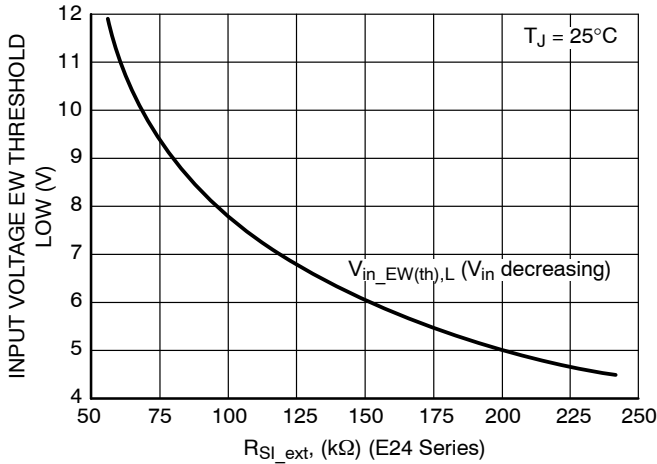
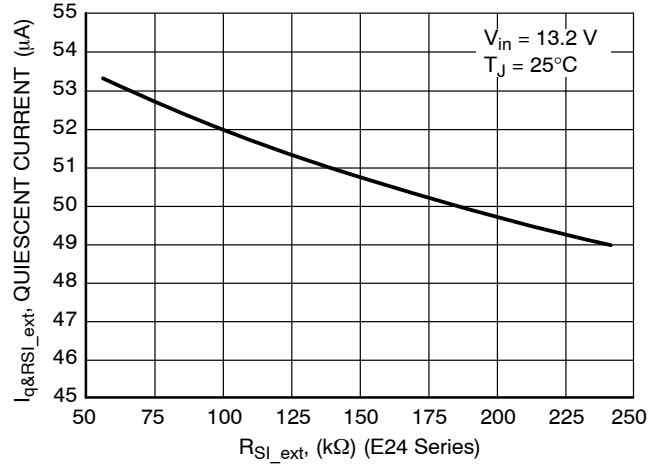

Figure 26. Input Voltage EW Threshold Low vs. R_{SI_ext} (Calculated Using E24 Series)
Figure 27. Quiescent Current vs. R_{SI_ext} (Including I_{RSI_ext} , Calculated Using E24 Series)
13. I_q for Preset EW Threshold Options is measured when R_{SI_ext} is not used. For typical values of I_q vs R_{SI_ext} see Figure 27.
Practically only preset options above 4.5 V can be used without R_{SI_ext} due to minimum operating input voltage value limitation. For other preset options the trip point has to be adjusted externally using R_{SI_ext} resistor connected between input monitor SI and GND (see Figure 1). For other preset options R_{SI_ext} has to be used to achieve V_{in_EW(th)} > 5.5 V (minimum operating input voltage value). The value for R_{SI_ext} is recommended to be selected in range from 50 kΩ to 250 kΩ and the trip point can be shifted according to Figure 26. In case of R_{SI_ext} values higher than 200 kΩ two resistors in series could be used in order to eliminate leakage current of the resistor and hence ensure precision of its resistance value. The higher is R_{SI_ext} the lower is overall Quiescent Current of the application (see Figure 27). General formulas for calculation of V_{in_EW(th)Low} or R_{SI_ext}
The Sense Output is from an open drain driver with an internal 30 kΩ pull up resistor to V_{out} . Figure 26 shows the SO Monitor timing waveforms as a result of the circuit depicted in Figure 1. If the input voltage decreases the output voltage decreases as well. If the SI input low threshold voltage is crossed it causes the voltage on the SO output goes low sending a warning signal to the microprocessor that a reset signal may occur in a short period of time. TWARNING is the time the microprocessor has to complete the function it is currently working on and get ready for the reset shutdown signal.